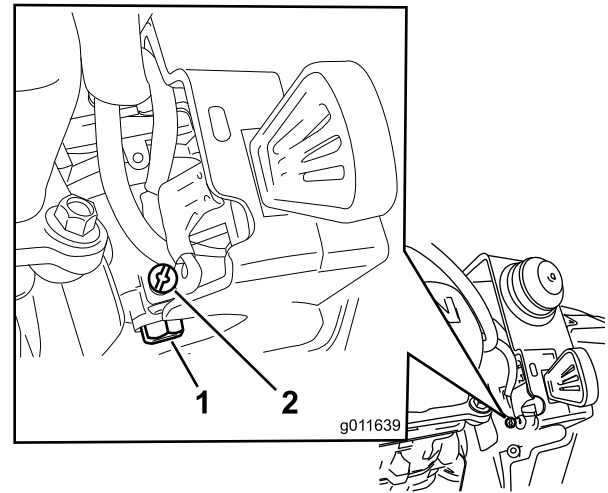

Figure 30
- A. Unscrew, but do not remove, the small screw on the side of the carburetor fuel bowl (Figure 30)